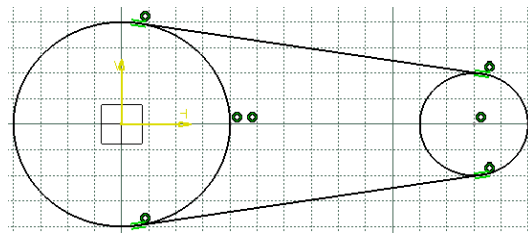

Figure 3-54 The sketch after drawing the second tangent line
10. Similarly, draw a tangent line on the lower side of the sketch by selecting the fourth quadrant of the first circle and the third quadrant of the second circle. Figure 3-54 shows the sketch after drawing both the tangent lines.